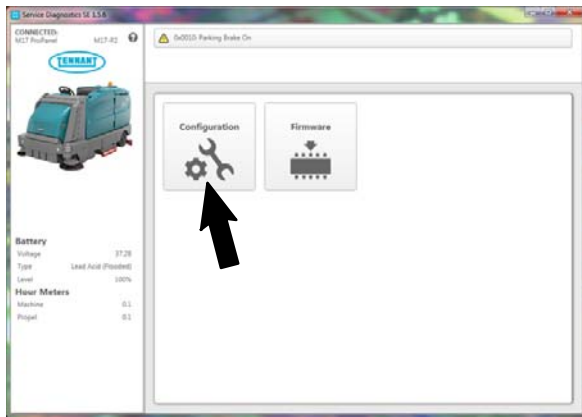

FIG. 20
- Check the machine configuration selections for incorrect installed options. Select the Configuration button. (Fig. 20)